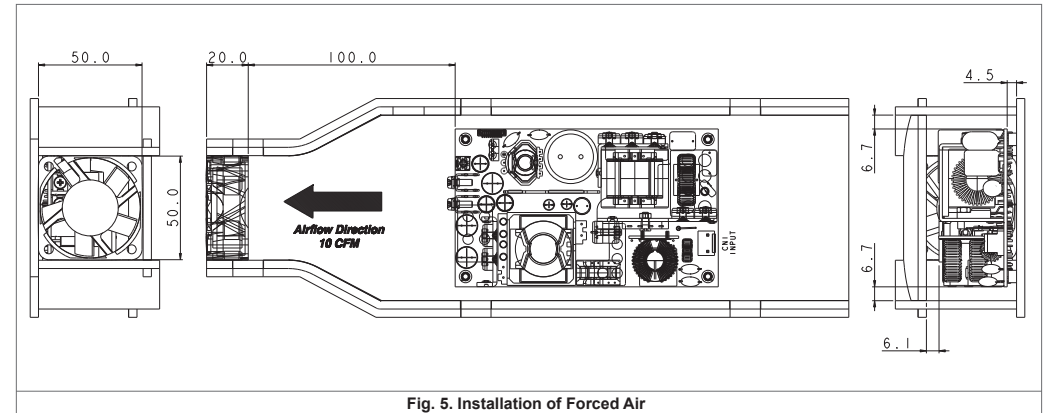

Fig. 5. Installation of Forced Air
6. Installation of Forced Air (Refer to Fig. 5)
► To ensure sufficient air flow, always maintain a distance and air flow direction as recommended in Fig. 5. while the device is in operation.
6. 安装强制通风 (参见图5)
- ▶ 电源运行时应始终留出空间以确保充足通风, 通风方向参照图5建议。